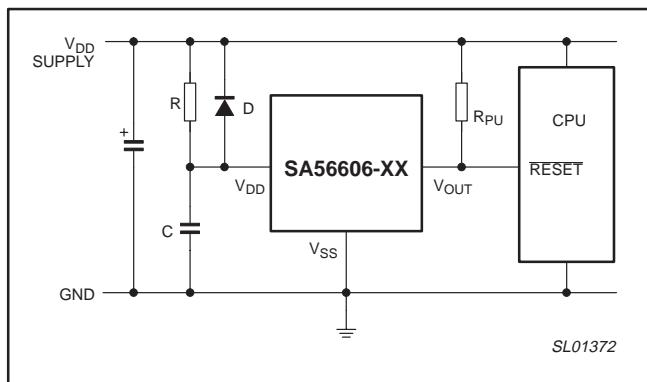

Figure 15. Power ON reset circuit.
The Power ON Reset Circuit shown in Figure 15 is an example of how to obtain a stable reset condition upon power-up. If the power supply voltage rises abruptly, the $RESET$ may go HIGH momentarily when V_{DD} is below the minimum operating voltage (0.95 V). To overcome this, a resistor (R) is placed between positive supply and the V_{DD} pin with a capacitor from the V_{DD} pin to ground.